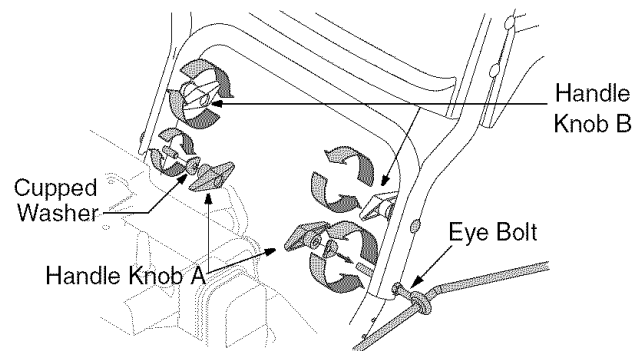

Figure 4
5. Insert eye bolt through the lower hole on both upper and lower handles on the left side and secure with washer and handle knob A removed earlier. See Figure 4.
6. Insert carriage bolt through the lower hole on both upper and lower handles on the right side and secure with the second handle knob A and cupped washer. See Figure 4.
7. Tighten handle knob B, already in place on the upper holes, and secure the handles firmly. See Figure 4.